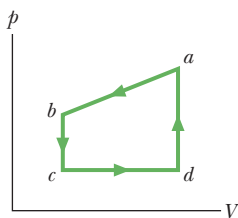

Figure 18-42 Problem 49.
••49  Figure 18-42 represents a closed cycle for a gas (the figure is not drawn to scale). The change in the internal energy of the gas as it moves from  $a$  to  $c$  along the path  $abc$  is  $-200$  J. As it moves from  $c$  to  $d$ ,  $180$  J must be transferred to it as heat. An additional transfer of  $80$  J to it as heat is needed as it moves from  $d$  to  $a$ . How much work is done on the gas as it moves from  $c$  to  $d$ ?